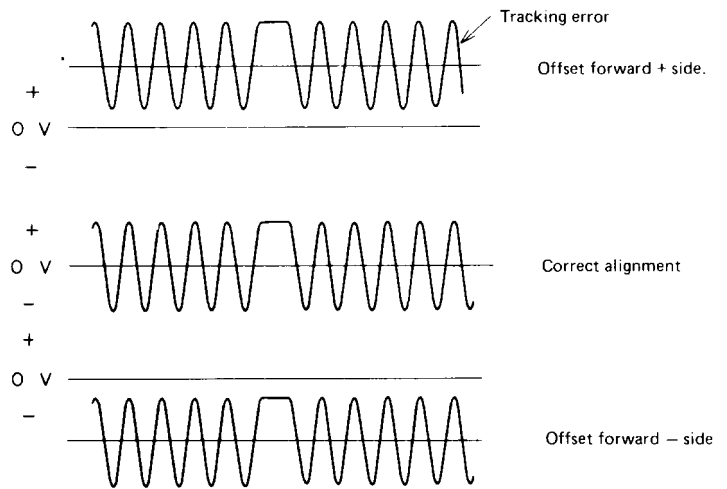

Fig. 5
- 7) Adjust SF504 so that waveform becomes as shown fig. 5.
- 2) Adjust SF503 so that waveform becomes as shown fig. 5.